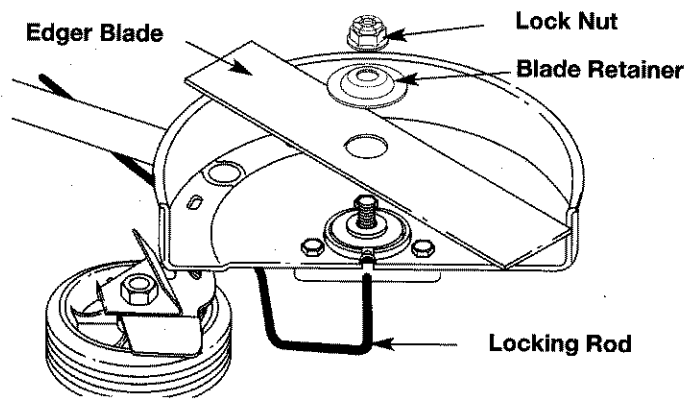
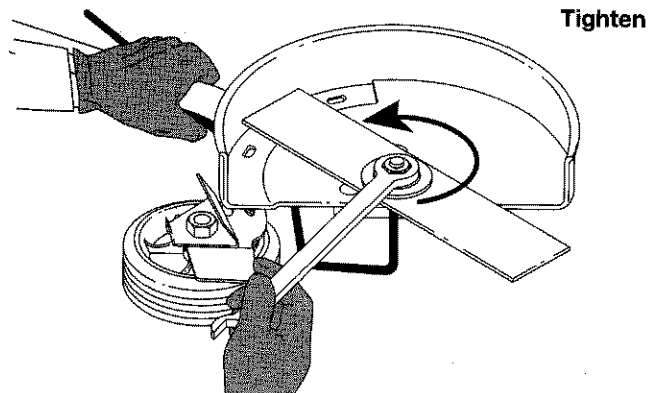

Fig. 33
Fig. 34
4. Install the new blade, blade retainer, and nut (Fig. 33). Insert the locking rod through the slot into the output shaft hole. Make sure that the blade stays flat and centered against the output shaft while tightening the lock nut **counterclockwise** (Fig. 34).
If you do not have a torque wrench, hold the locking rod in the slot. Rotate the nut **counterclockwise** with a 5/8 inch closed-ended or socket wrench, until the nut presses against the washer and the blade is snug. Make sure the blade assembly is installed correctly, then rotate the nut an additional **1/4-1/2 turn** (Fig. 34).